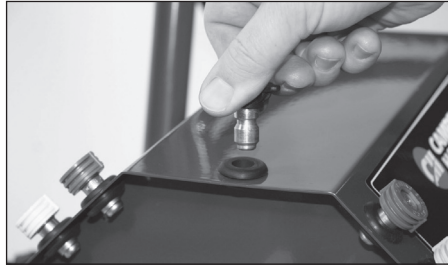

Figure 11 - Insert spray tips into the holder
3. Insert quick connect spray tips into rubber holders on front of the placard. (See Figure 11).